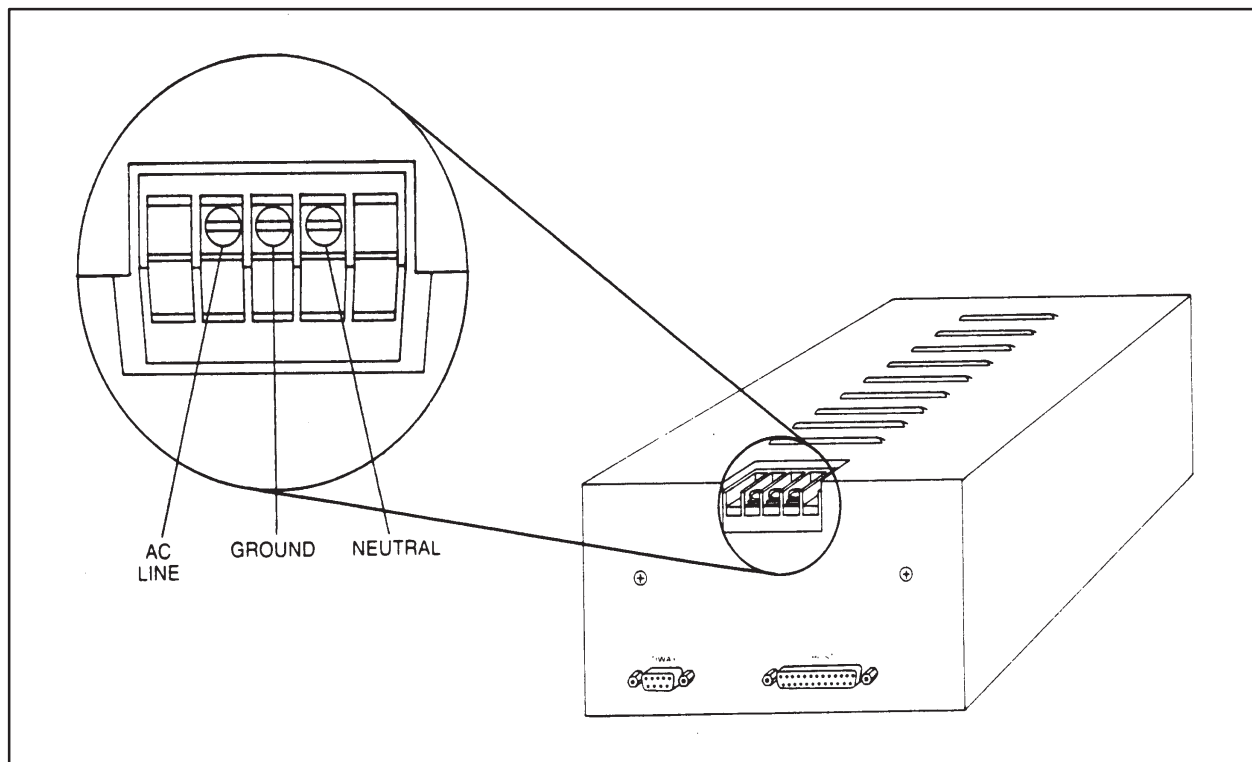

Figure 4-5 AC Power Terminals
3. Once the Host Adapter has been mounted, remove the shield covering the three AC terminals (ground/neutral/line). With power off, attach the AC power cable, and then replace the shield. (See Figure 4-5.)